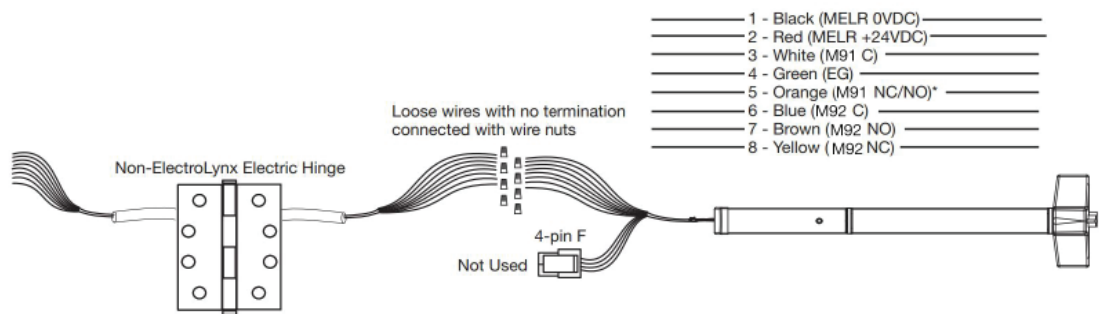

Figure 10 Non-ElectroLynx Power Mode Wiring MELR Wires with ElectroLynx Connector Removed
3. Plug the 8-pin ElectroLynx connector from the pushbar into the 3" ElectroLynx harness or splice into non-ElectroLynx harness. See Figure 10.